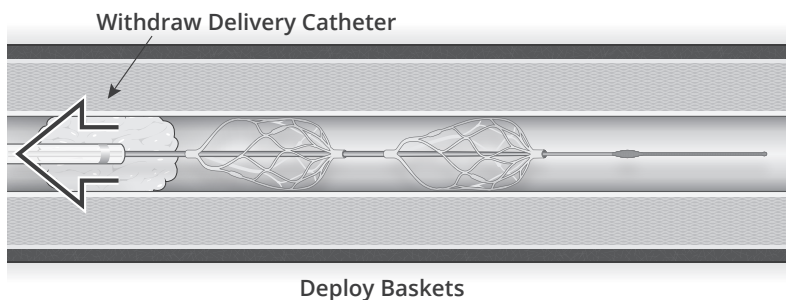

Figure 6
6. Deploy the two baskets by withdrawing the delivery catheter while stabilizing the basket wire (see Figure 6). Confirm placement under fluoroscopy.